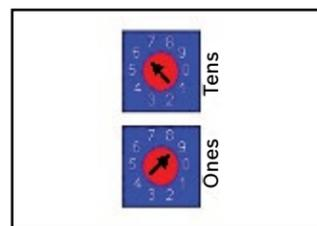

Fig. 4 Rotary Dials
- 2 Rotary Dials:** The rotary dials are used to address the Control Air 5600 so it can be uniquely identified over a network. The top dial represents the tens digit while the bottom one represents the ones digit, allowing for hardware-based addressing of up to address 99. Before setting or changing the address, ensure the controller is powered off, as it only reads the address when the module is powered on. In the example shown in Fig. 4, the rotary dial is set to address 69.